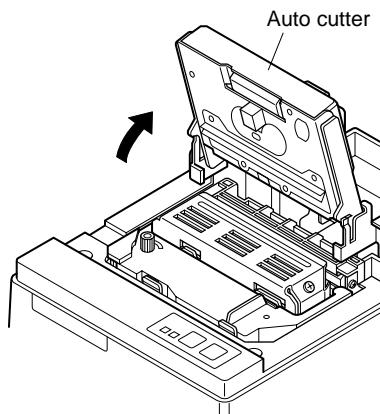

Fig. 4-9 Raise the auto cutter
- ③ Lift up the auto cutter and put it in a vertical position, as shown in Fig. 4-9.